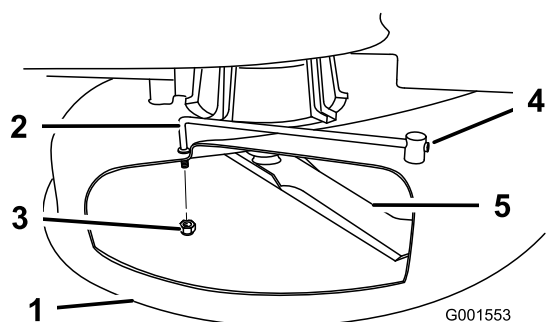
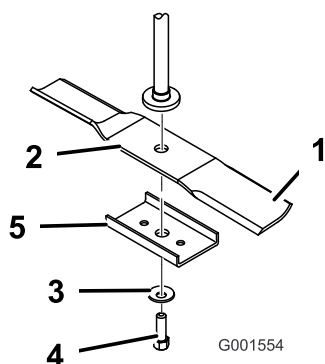

Figure 11
Figure 13
- Insert the new pivot rod into the short stand-off on the deck. Secure the rear end of rod into the mower with a nut (3/8 inch) (Figure 11).
1. Hold the blade using a rag or thickly-padded glove (Figure 11 and Figure 13).
2. Remove the blade bolt, curved washer, blade stiffener, and blade from the spindle shaft (Figure 13).
3. Install the blade onto the spindle shaft (Figure 13).
Important: The curved part of the blade or sail, must be pointing upward, toward the inside of the mower to ensure proper cutting (Figure 13).
4. Install the blade stiffener, the curved washer (cupped side toward the blade), and the blade bolt (Figure 13). Torque the blade bolt to 35-65 ft-lb (47-88 N·m).